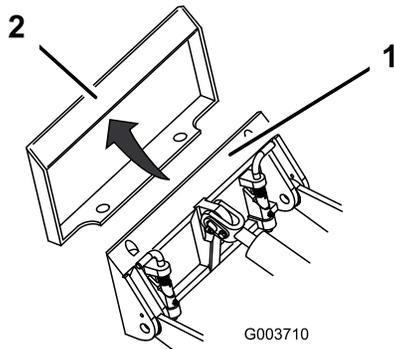

Figure 22
4. Position mount plate into the upper lip of the attachment receiver plate (Figure 22).